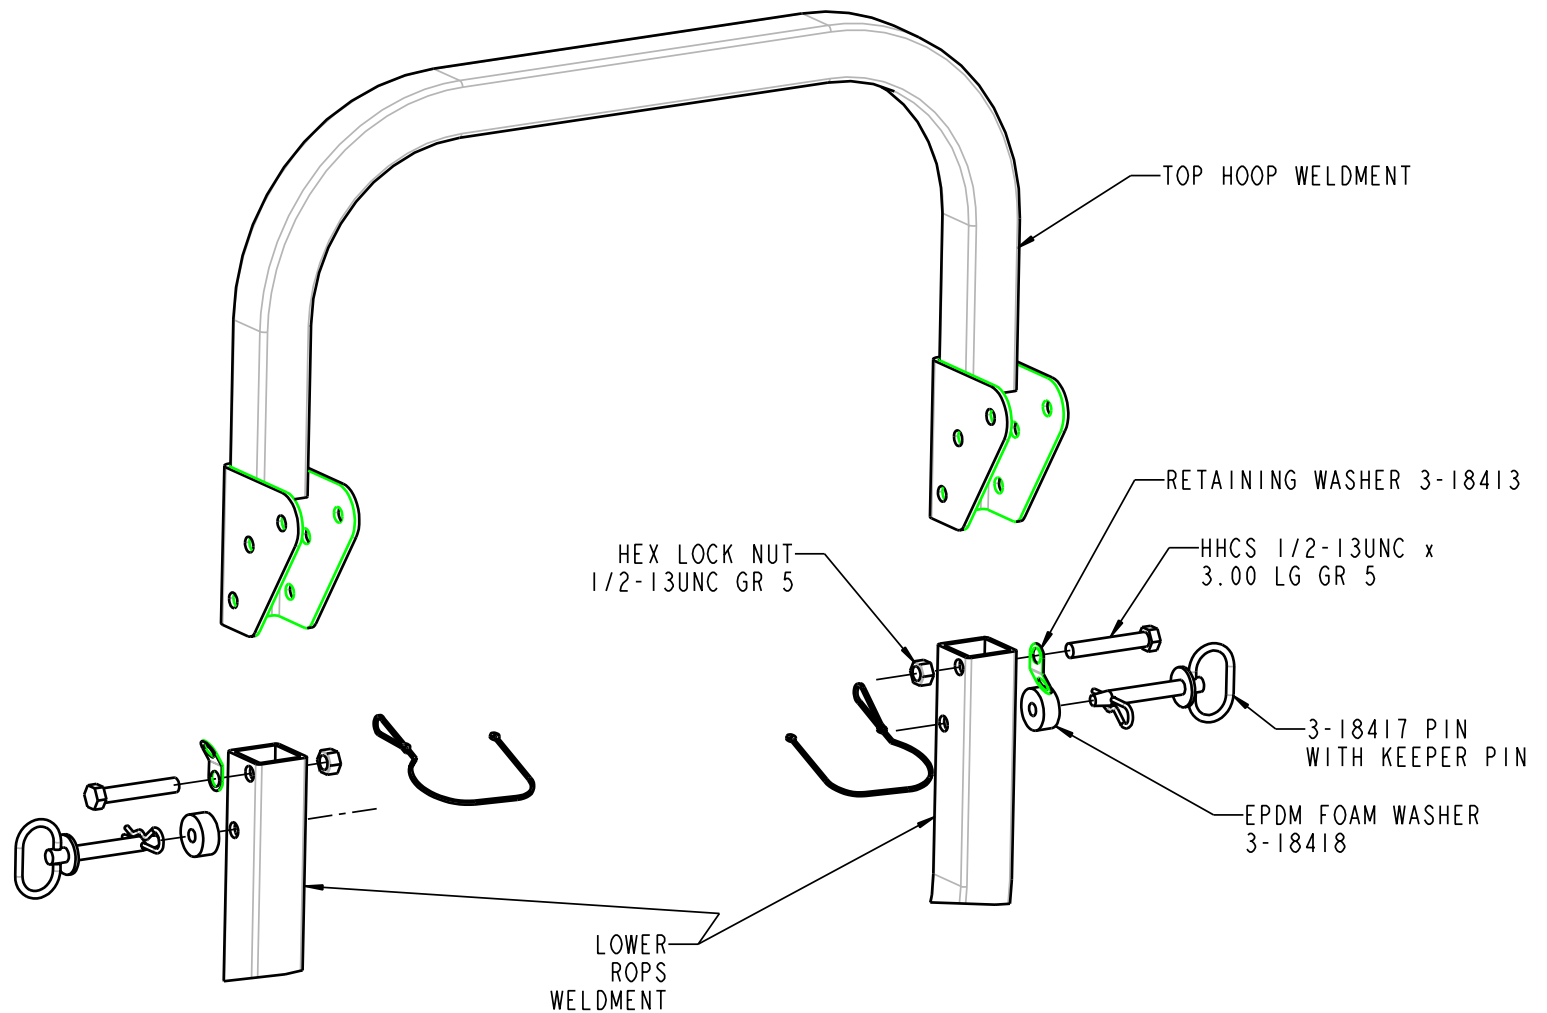

FIGURE 2
Upper Hoop Installation (Refer to Figure 2 for Steps 7-9)
- 7) Install the upper rollbar hoop. Secure each side of hoop with a ½-13unc x 3.00 grade 5 bolt, a pin retainer washer and a ½-13unc grade 5 center-lock nut into the upper mount hole. Tighten only until the nut contacts the bracket. Do not over tighten. Hoop should pivot freely, up and down. See Figure 2.
- 8) Install (1) EPDM washer onto each of the hitch pins. Position the top hoop into the up-right location and install the hitch pins. See Figure 2.
- 9) Attach (1) plastic lanyard to the handle of each hitch pin. Insert one end of the lanyard through the retaining washer and attach the spring pin to the eye in the lanyard. Install the spring pins into the hitch pins.